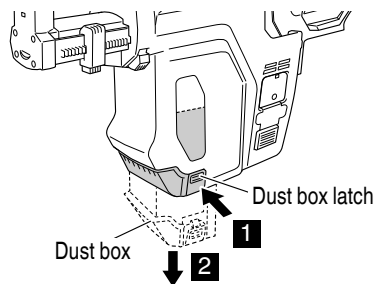

Fig. 13
5. Emptying the dust (Fig. 13, 14, 15)
- (1) While keeping the dust extractor system level and upright, press and hold the dust box latches and pull the dust box out of the dust extractor system. Dispose of the dust inside. (Fig. 13, 14)